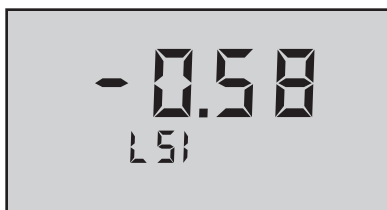

Figure 44
10. The 6Psi generated LSI value will display (see example in Figure 44).